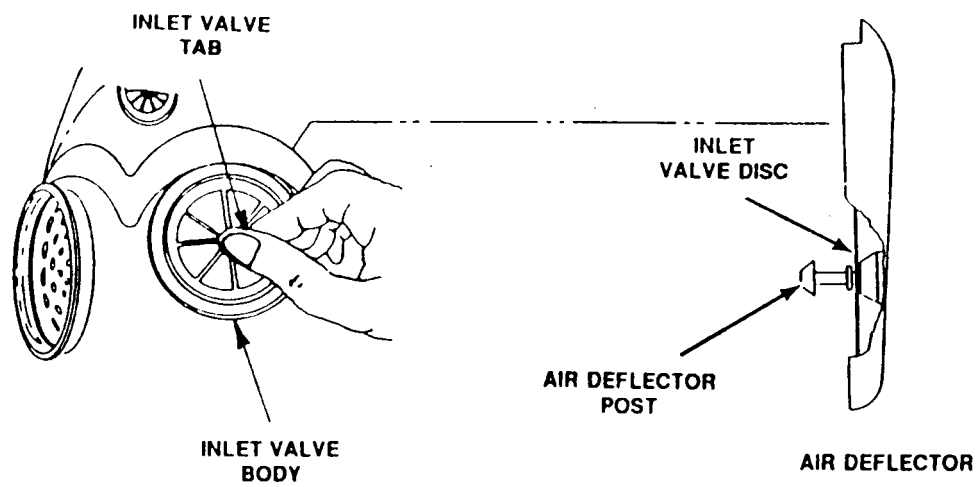

Figure 3-7. Inlet Valve Assembly
- b. Gently push center of valve body (Figure 3-7) until it pops through port.